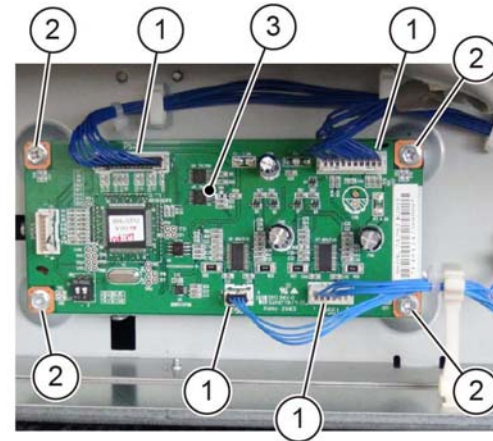

Figure 3 STM PWB Removal
3. Remove the STM PWB, Figure 3:
- a. Disconnect four connectors (1).
- b. Remove four screws (2).
- c. Remove the STM PWB (3).